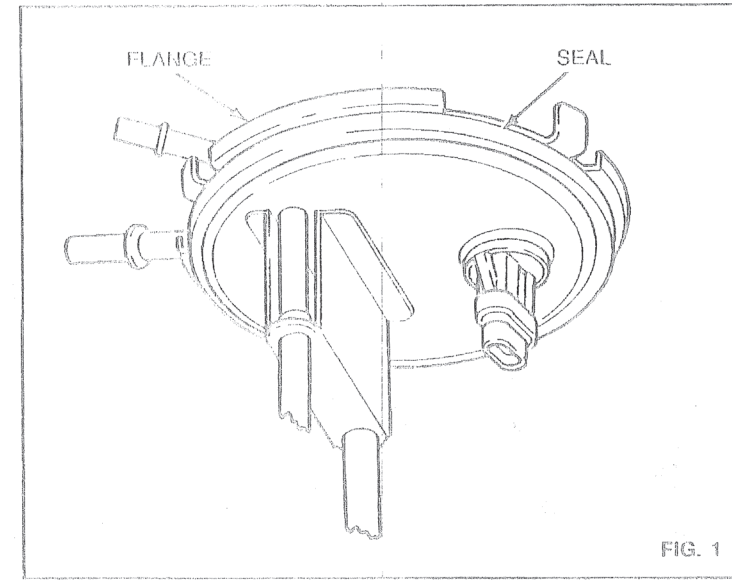

FIG. 1
D) Obtain the new tank unit. Check that the seal is properly positioned under the top of the flange (fig. 1).